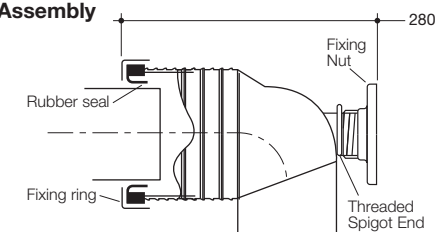

Fig. 6
- 7- Position rubber seal over the front of the connector and secure with the fixing ring, as detailed in Fig. 6.